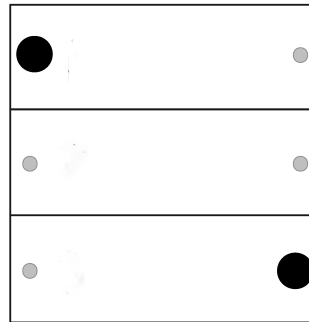

Figure 6: Activating programming mode for channel buttons
- Press the top left and bottom right buttons simultaneously for longer than 4 seconds (Figure 6).
- Press the top left and bottom right buttons simultaneously for longer than 20 seconds (Figure 6).